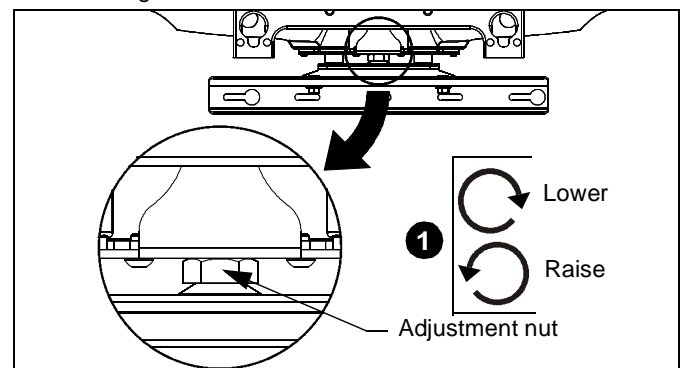

Figure 3
1. Check PNR for the desired height. If needed, use the adjustment wrench (E) to adjust the PNR height. (See Figure 3)
2. Remove four bolts (two on the top and two on the bottom) securing the swing arm assembly to the top and bottom mounting brackets. (See Figure 3)
- Left of Center (See Figure 3).